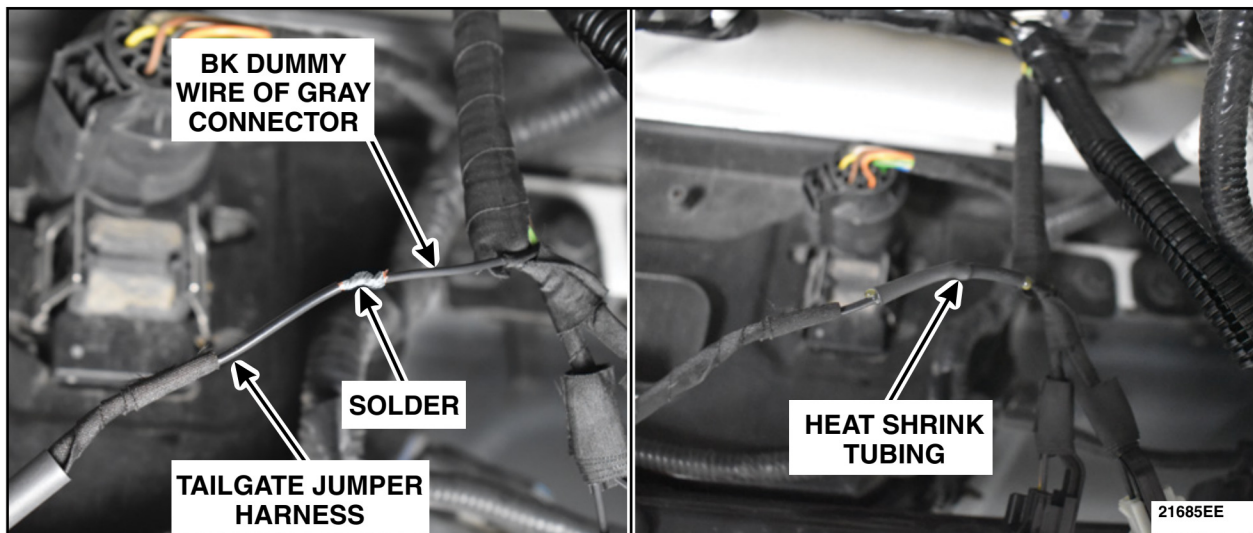

FIGURE 32
37. Solder the twisted wires and apply and seal the heat shrink tubing. See Figure 32. Reapply the convolute and/or black electrical tape.